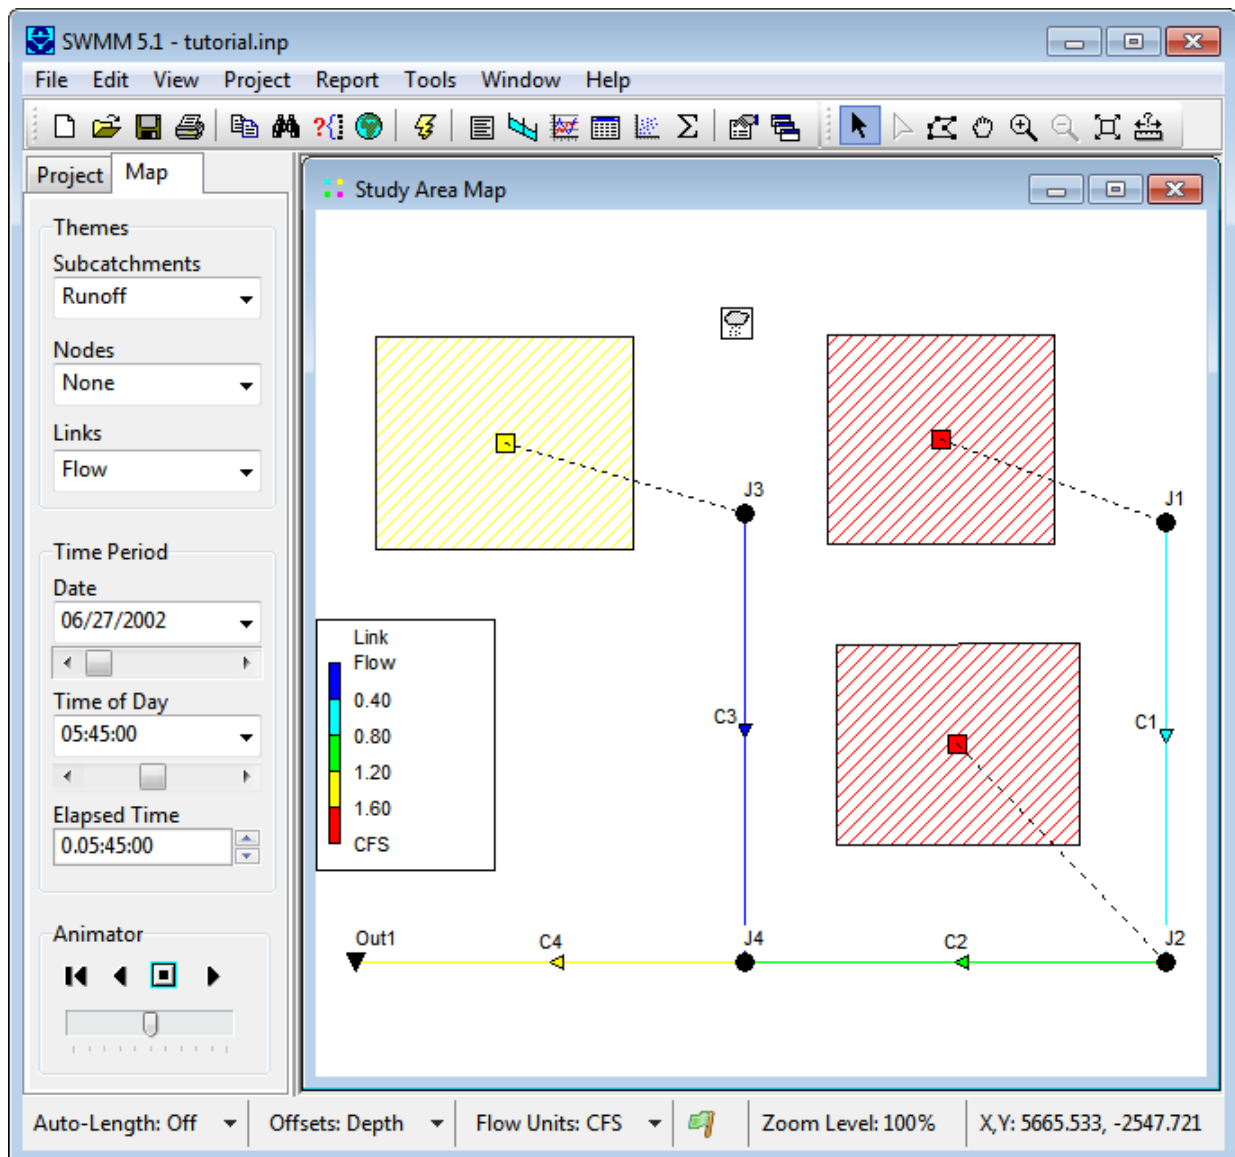

Figure 2-13 Viewing color-coded results on the Study Area Map
2. Select the variables to view for Subcatchments, Nodes, and Links from the dropdown combo boxes appearing in the Themes panel. In Figure 2-13, subcatchment runoff and link flow have been selected for viewing.
6. The Date / Time of Day / Elapsed Time controls on the Map Browser can be used to move through the simulation results in time. Figure 2-13 depicts results at 5 hours and 45 minutes into the simulation.
7. You can use the controls in the Animator panel of the Map Browser (see Figure 2-13) to animate the map display through time. For example, pressing the  button will run the animation forward in time.